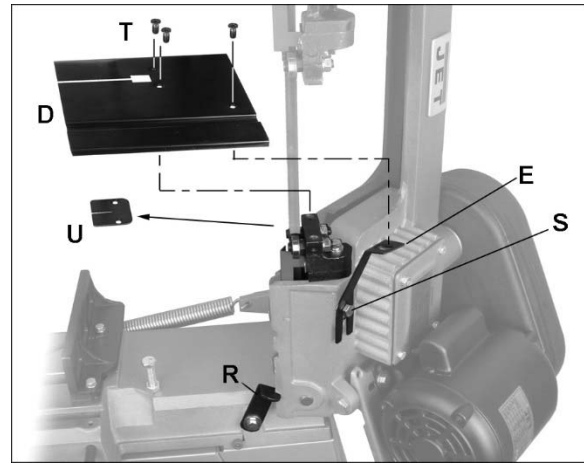

Figure 7
2. Raise bow to vertical position and use support (R, Figure 7) to secure in position. (If support will not slide into recess, vertical stop may need adjustment. See sect. 7.12)
3. Loosen bolt (S, Figure 7) just enough to slide stand (E) behind bolt. Tighten bolt just enough to hold stand in position.
4. Remove two flat head screws (T) and bearing guard (U). [Note: Bearing guard (U) must be reinstalled when returning to horizontal mode.]
5. Guide blade through slot in vertical cutting plate (D, Figure 7) and fasten cutting plate with the two screws.
6. Fasten stand (E) to underside of table using screw and hex nut (HP6/7). Bracket may need to be bent slightly to accommodate plate.
7. Tighten bolt (S).